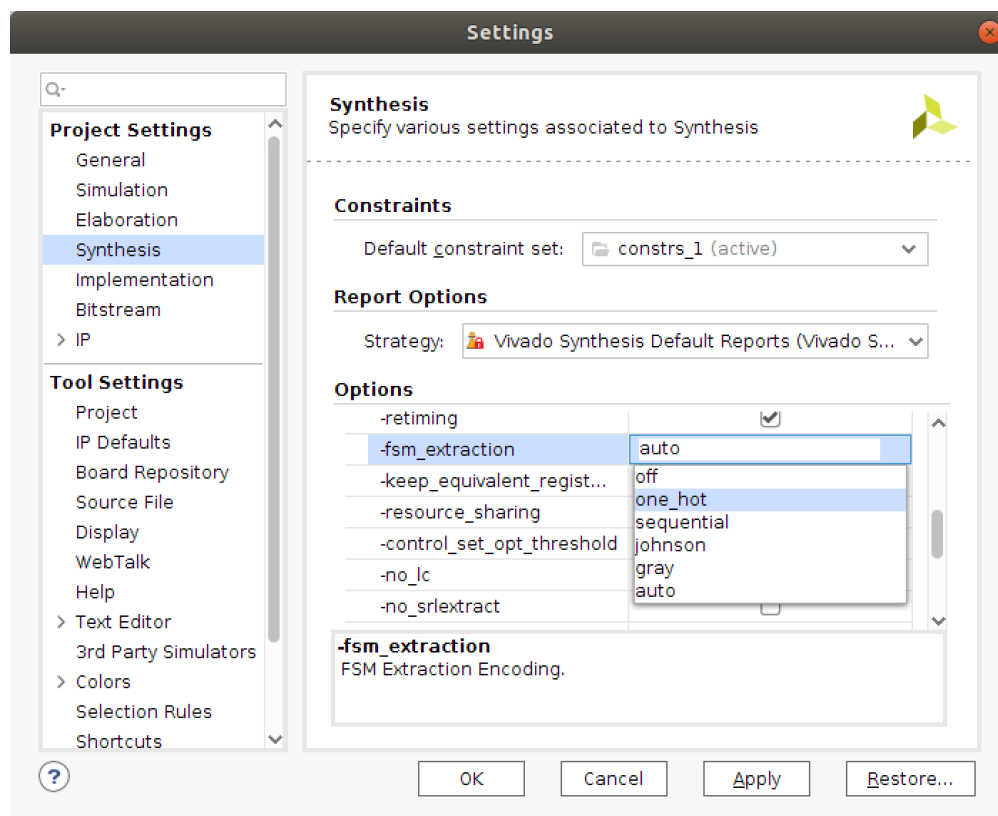

Figure 5: Synthesis settings
7. To force a particular coding style, right-click on **Synthesis** in the Flow Navigator, click **Synthesis Settings...**, and change the **-fsm-extraction** option as shown in Figure 5.